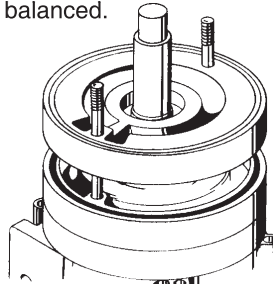

Figure 4-8
11. Slide another left hand channel ring (#10) into place with the water channel facing up.(refer to figure 4-8) This time, however, place the large inlet opening in the “five o’clock” position. By locating successive stages 180 degrees from the last, hydraulic loads are radially balanced.